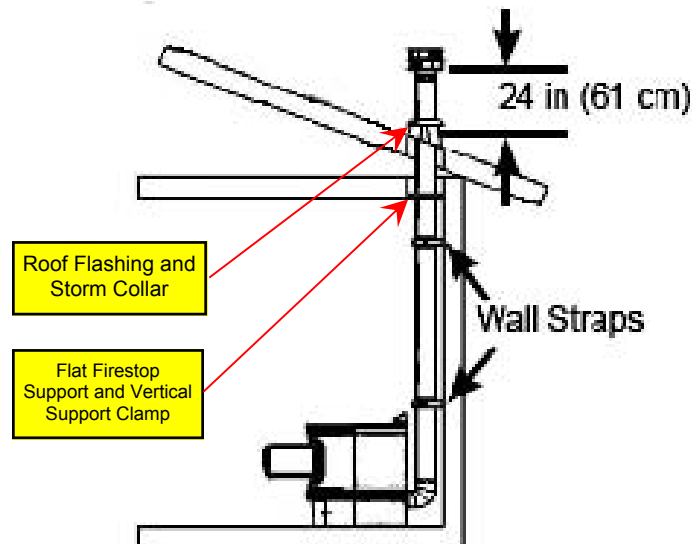

Figure 40 - Venting Vertical Run Supports
9. After lining up for hole in roof, use same method as above and cut either a oval or square hole in the roof. Always cut the hole at least 4 in. (10cm) larger than the diameter of the pipe. Install the upper edge and sides of Flashing under the roofing materials and nail to the roof along the upper edge. Do not nail the lower edge. The Vent Cap must extend a minimum of 36 in. (91cm) above the roof. Also, the Vent Cap must be 24 in. (64cm) higher than the highest part of the roof or structure that is within 10 ft. (3m) of the chimney measured horizontally. See **Figure 40 - Venting Vertical Run Supports**.